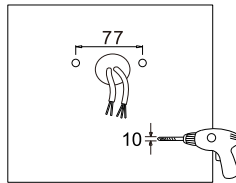

Figure 6
3. YOKE MOUNTING (YM)
Step 1: Drill holes on the wall as shown. (Figure 6)